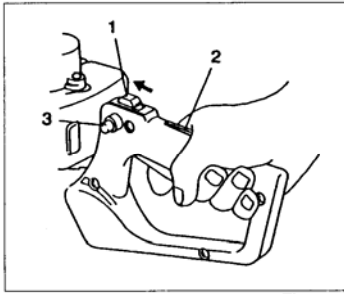

Fig. 2-2
### Starting (Fig. 2-2, 2B)
1. Set ignition switch (1) to the ON position. (Fig. 2-2)